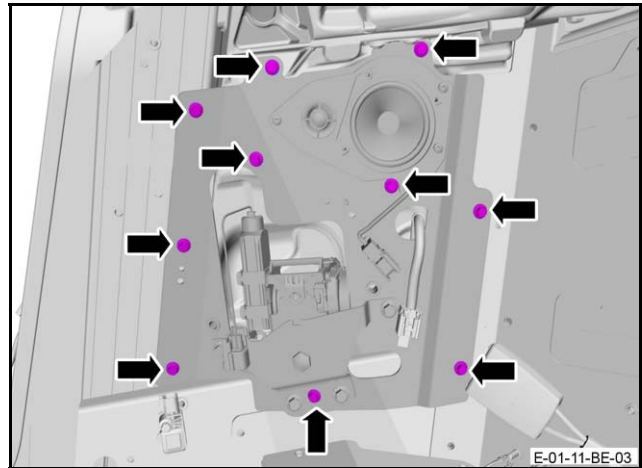

Figure 4
18. Remove the 10 screws to release the seat belt inertia reel and speaker holding plate (Refer to Figure 4).